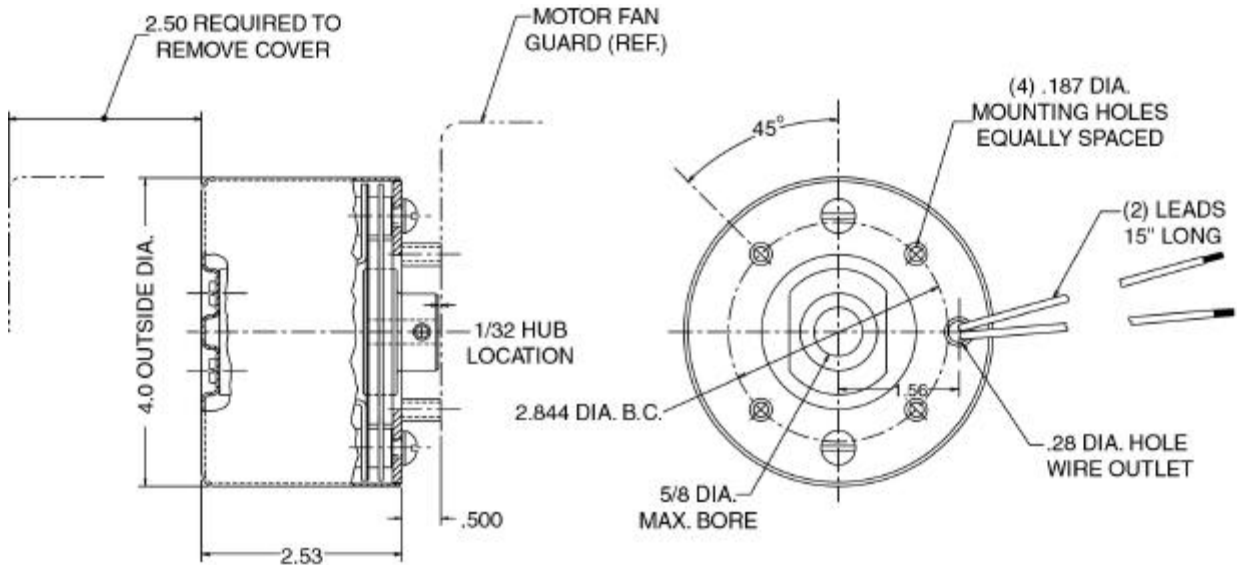

Figure 2. Dimensions of Brake
INSTALLATION (See Figures 2, 3, 4 & 5)
1. Position hub (9) on motor shaft 1/32" from mounting surface of motor fan guard and securely tighten both set screws. Bore in hub (See Figure 2) is designed to give minimum clearance between hub and motor shaft. If hub is tight on shaft, use emery cloth on motor shaft, so that hub slides on freely. Loctite or similar adhesive may be used on motor shaft extension.
2. Remove cover screws (18) and cover (17).
3. Place brake on motor, guiding rotating discs (10) on hub. Mount brake so that grommet (8) is on the wire connection box side of motor. Depress operator assembly lever (19) and align discs if needed. Attach brake securely to motor mounting surface using machine screws (6), lock washer (5) and spacers (3). Use of needlenose pliers to guide and hold spacer may be helpful. Brake bracket (4) is to be concentric with motor shaft within .010 T.I.R. and square within .010.
6. Bring solenoid lead wires thru grommet (8) to make the electrical connection. Replace cover and cover screws.